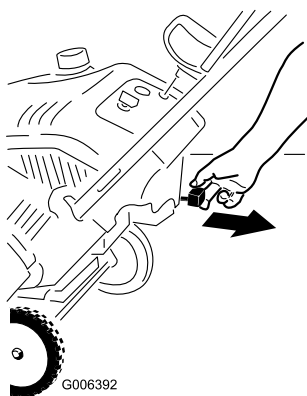
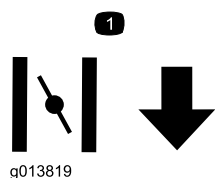

Figure 14
Figure 15
- Pull out the choke lever (Figure 14 and Figure 15).